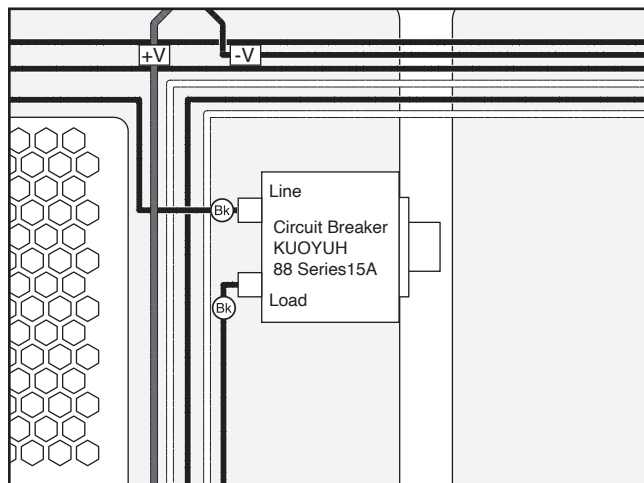

Figure 12. 15A circuit breaker.
10. Connect wires disconnected in **Step 8** to 15A circuit breaker (see **Figure 12**).